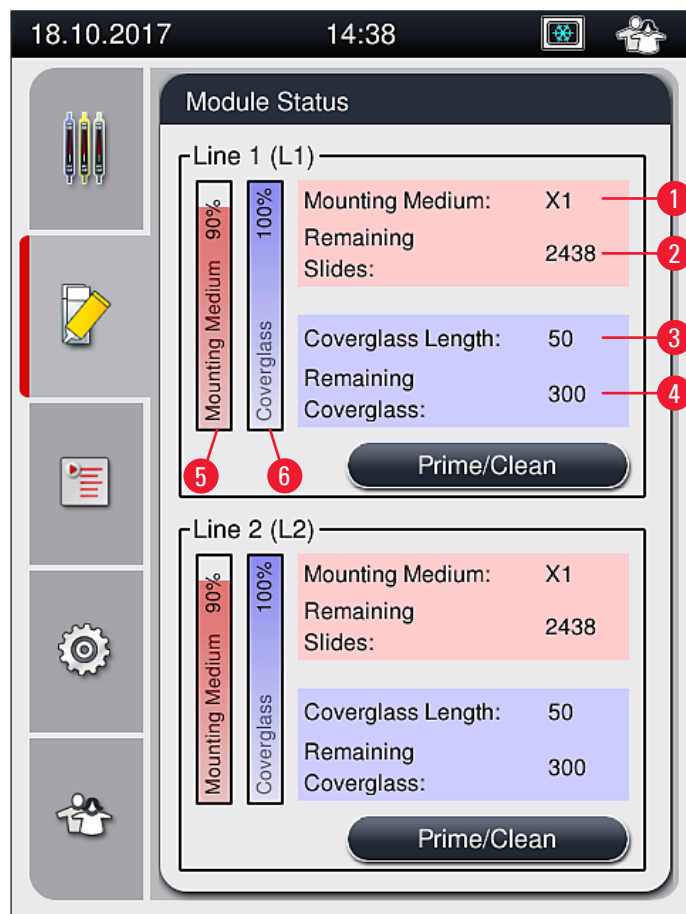

Fig. 22
7. The mounting medium bottles that are inserted are detected by the instrument software and the **Module Status** (→ Fig. 22) is updated.